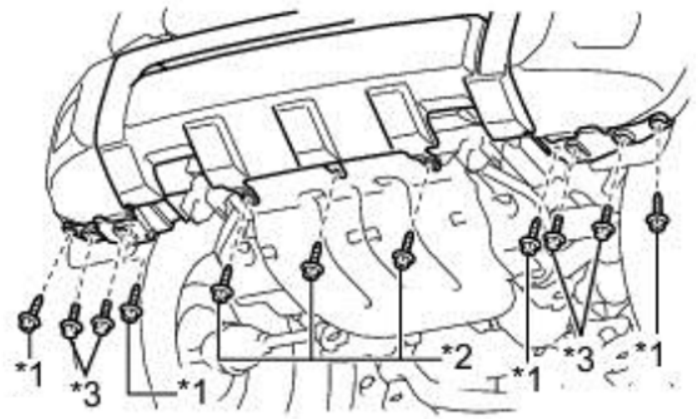

Figure 2
2. Using a 10mm wrench, remove the seven (7) OEM bolts under the bumper. (Figure 2, *1 and *2). Using a 12mm wrench, remove the four (4) OEM bolts under the bumper. (Figure 2, *3)